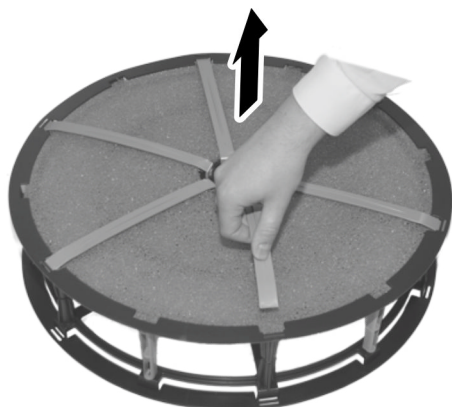

Fig. 23: Releasing the terminal strips
4. ➤ Release the terminal strips from the filter drum and fold them up (Fig. 23).